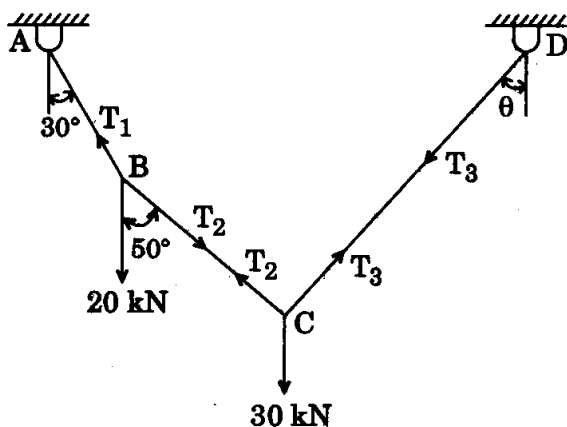

Figure 1
- (b) A wire rope is fixed at two points A and D as shown in Figure 1. Two weights, 20 kN and 30 kN, are attached to it at B and C, respectively. The weights rest with